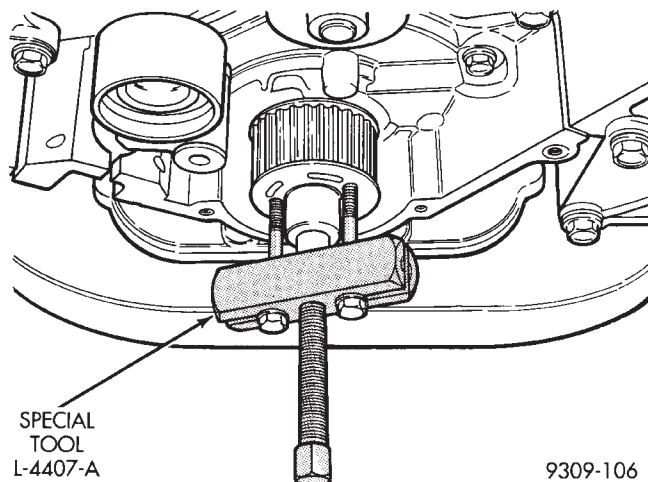

Fig. 77 Crankshaft Sprocket—Removal
(1) Remove timing belt. Refer to procedure in this section.
(2) Remove crankshaft sprocket using Special Tool L-4407-A (Fig. 77).